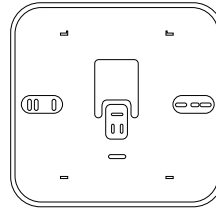

Fig. 10
- If necessary, install the mounting plate to the electrical box included in the kit (Fig. 10).
When the batteries are nearing exhaustion, the display shows “” (Fig. 10).